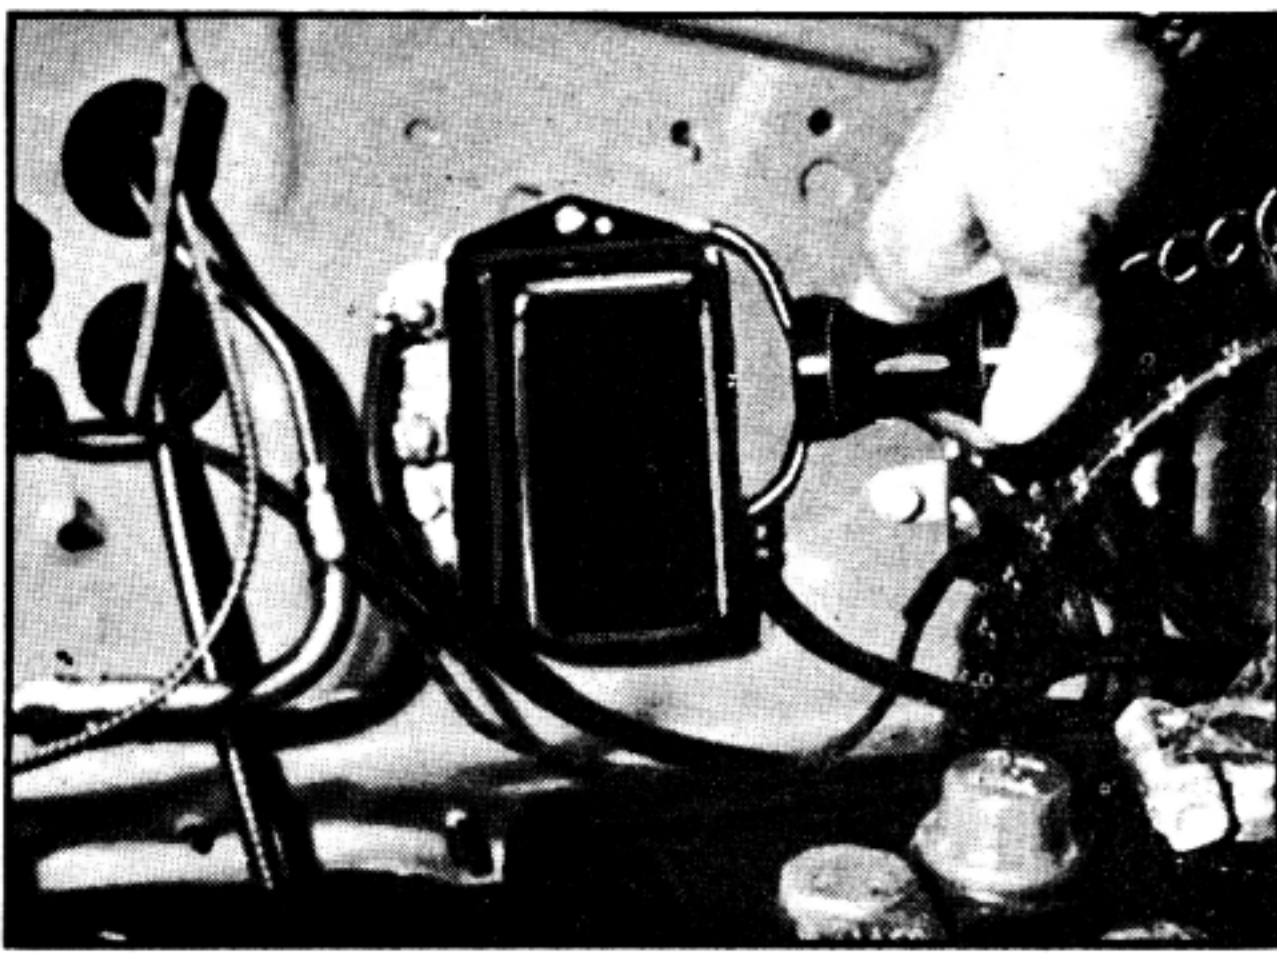

Figure 6: Reading voltage at battery terminal of voltage regulator.
- (a) Read actual voltage at battery terminal of regulator (Figure 6:). Use bottom scale and make sure switch on back of tester is set for 6 or 12 volt system (whichever is needed for test).